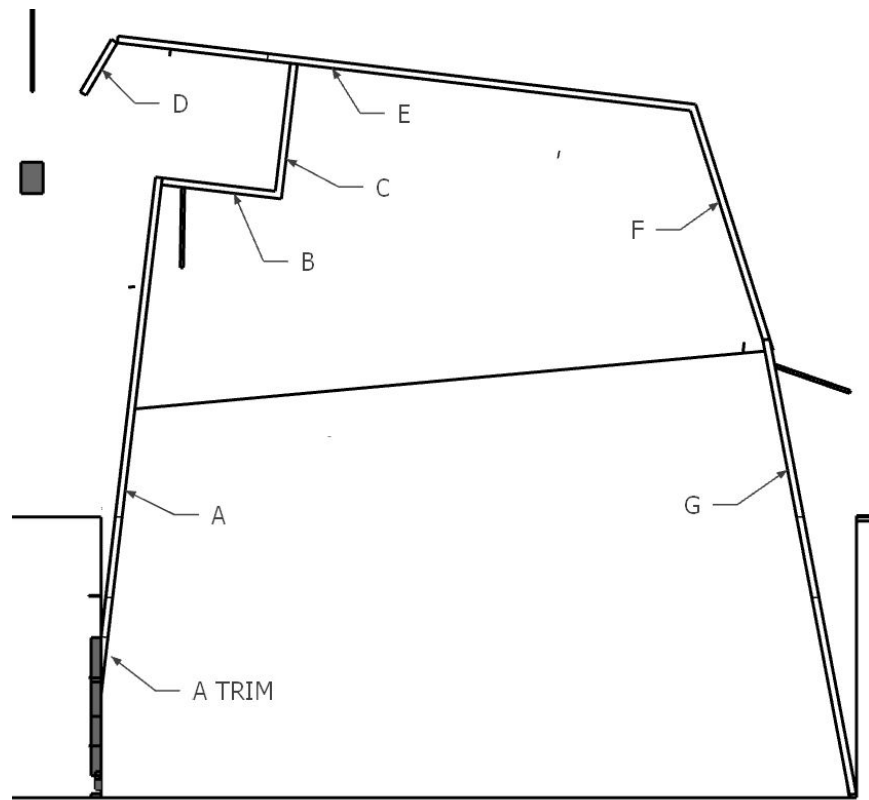

Fig 9 Wall plan
- e. Now that you have provided the builders with a clear plan and accurate measurements for the placement of any architecture on the stage floor, you should provide a plan view with all the wall sections labelled. See Fig 9, next page.